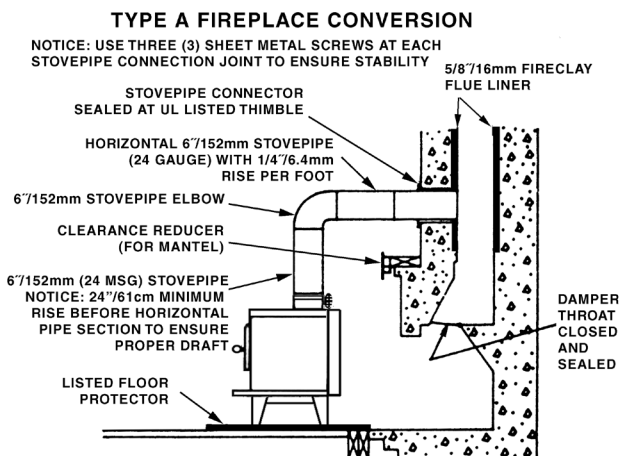

Figure 19 - Fireplace Conversion
**NOTE: DO NOT ATTEMPT TO ROUTE THE CHIMNEY CONNECTOR PIPE THROUGH THE THROAT OF THE FIREPLACE.** Directly connecting the stovepipe into the existing masonry chimney (figure 19 “Type A” Fireplace Conversion) of the fireplace is the ONLY approved method of installation. This is a complicated and involved process and to ensure safety should only be done by a qualified installer.